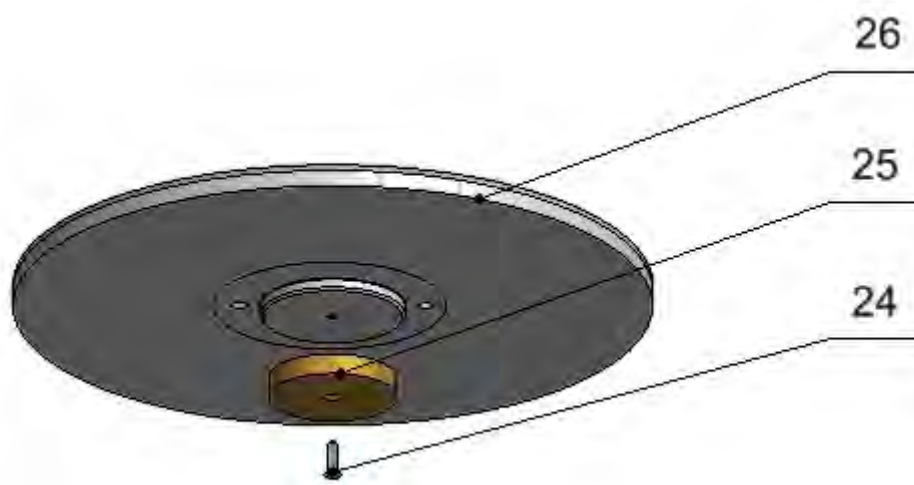

Fig.11
- Use M3 screw (24) to fix a ballast weight (25) to a weighing pan (26). (Fig.11)